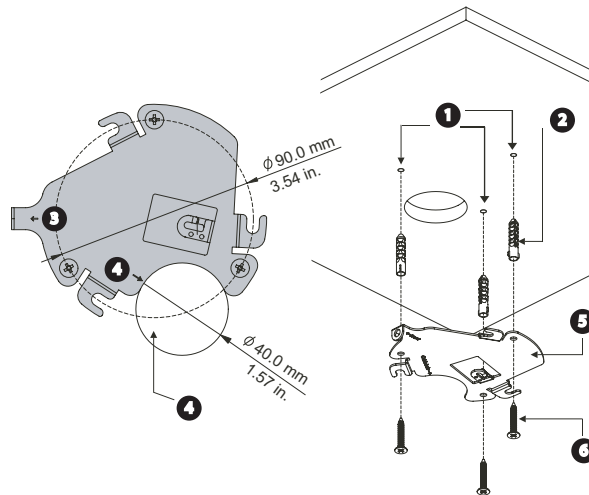

Fig. 8.1 Ceiling Mount Installation
2. Use the supplied mounting bracket as a template to mark the three (3) mounting hole locations on the ceiling.
3. Locate the curved indentation (see Figure 8.1, Reference # 5) to mark the center of the hole.
7. Position the locking tab, as seen in Figure 8.1 reference #3, of the mounting plate facing the center toward the field of view for a 180 degree position.
6. Orient the locking tab, as seen in Figure 8.1 reference #3, of the mounting plate facing the center toward the field of view for a 180 degree position.